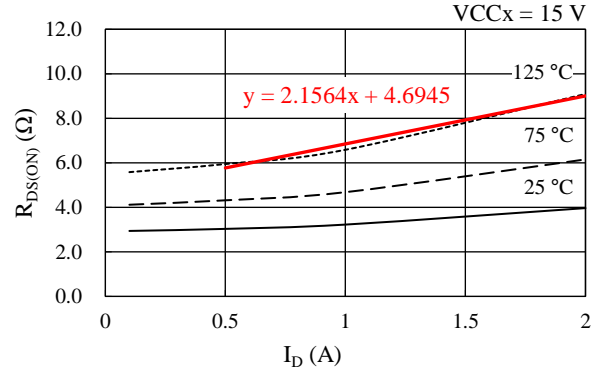

Figure 14-1. Linear Approximate Equation of  $R_{DS(ON)}$  vs.  $I_D$
Steady-state loss in a power MOSFET can be computed by using the  $R_{DS(ON)}$  vs.  $I_D$  curves, listed in Section 15.3.1. As expressed by the curves in Figure 14-1, a linear approximation at a range the  $I_D$  is actually used is obtained by:  $R_{DS(ON)} = \alpha \times I_D + \beta$ . The values gained by the above calculation are then applied as parameters in Equation (4), below. Hence, the equation to obtain the power MOSFET steady-state loss,  $P_{RON}$ , is: